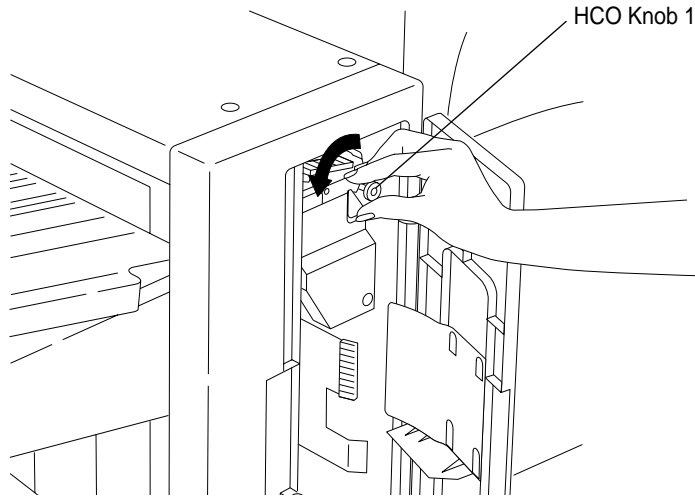

Figure 3-65 HCO Knob 1 Paper Input Roller
2. Open the HCO door. Locate and turn knob 1 counterclockwise to move paper from the input area to the lower section as shown in Figure 3-65.